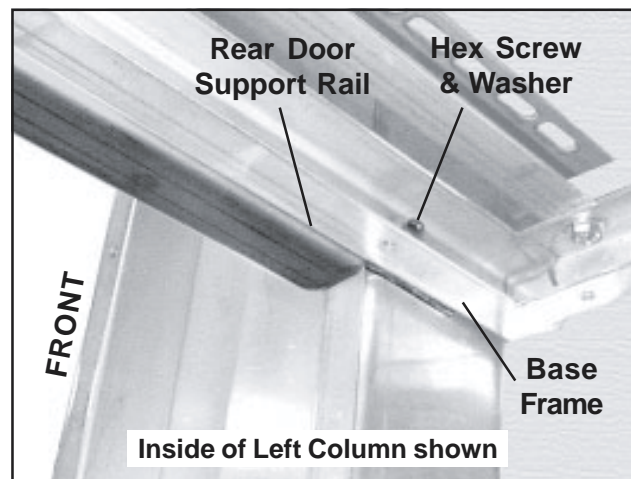

Figure 17. Rear Door Support Rail Mounted in Place
1. Slide the ends of the rear door support rail upward and into place between the rear of both columns and the base frame (Figure 17).